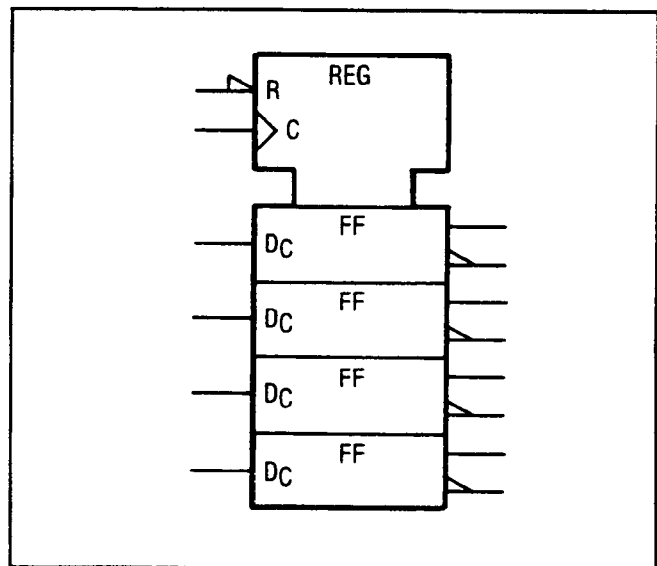

Figure 8-18. Quad D-Type Latch
**Quad D-Type Latch.** The register control block illustrates a quad D-type latch (see Figure 8-18). There is a common active-low reset (R), and a common edge triggered control input (C). Since there is only one dependency relationship, the controlling input is not numbered and the controlled functions (D) are subscripted with a C.